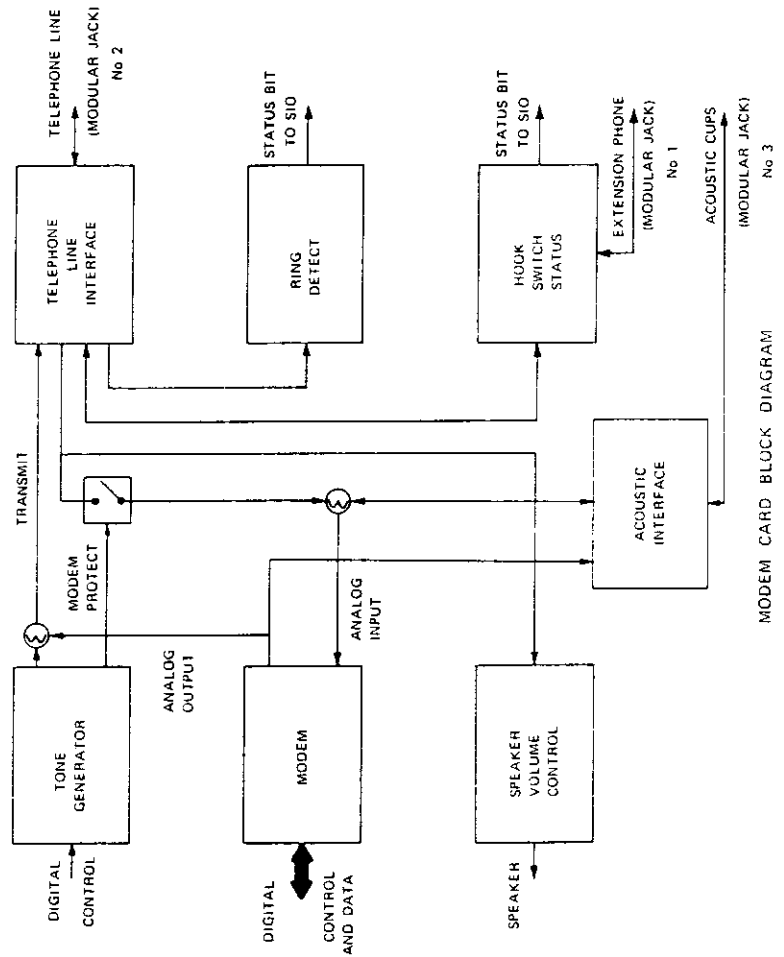

Fig. 2-4 – Modem Board Block Diagram
- Figure 2-4 Modem Board Block Diagram
### Modem Board (Fig. 2-4)